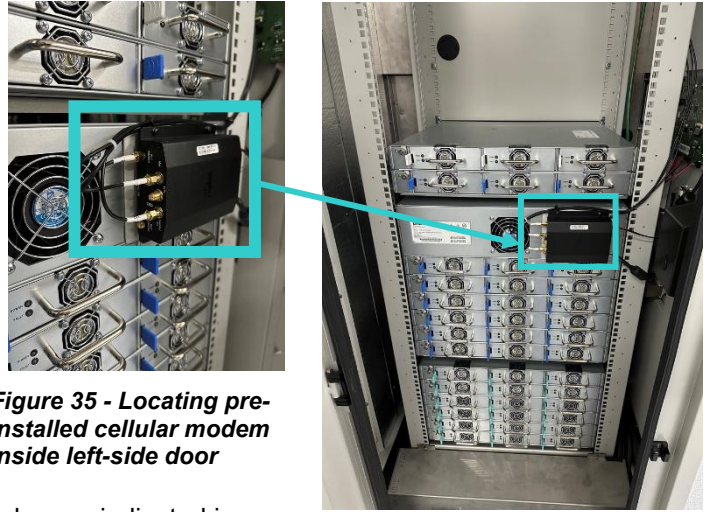

Figure 35 - Locating pre-installed cellular modem inside left-side door
2. Open EV Fast charger's left-side door and locate the pre-installed modem (Figure 35).
CAUTION! Configuration Bus Bar must be loaded on and anchored to Bus Bar with the “FRONT” etching or stamp facing out, as shown in Figures 35 and 38.